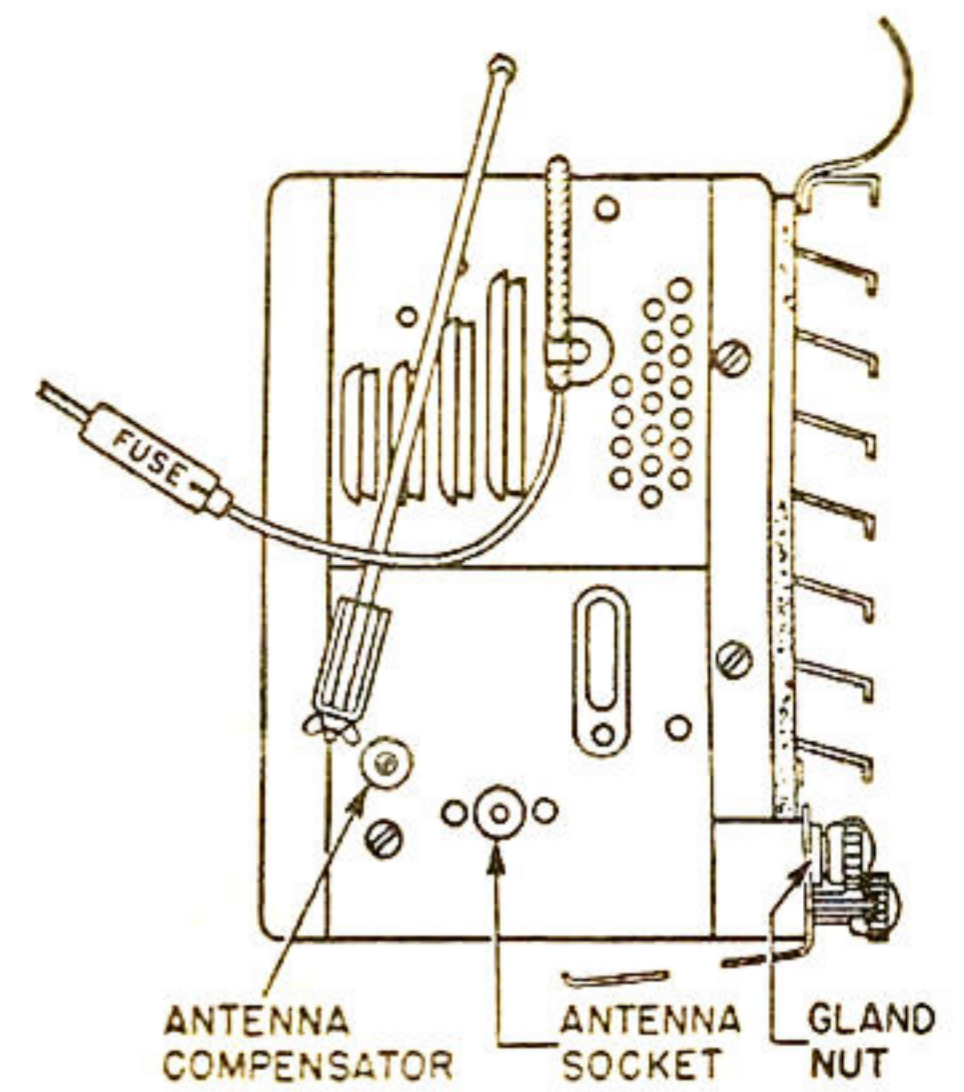

Fig. 2
7. Plug the antenna lead into the socket shown in Fig. 2.
8. When the radio set is warmed up, adjust the antenna compensator on the set (see Fig. 2) for maximum volume on a weak station around 1400 kilocycles.